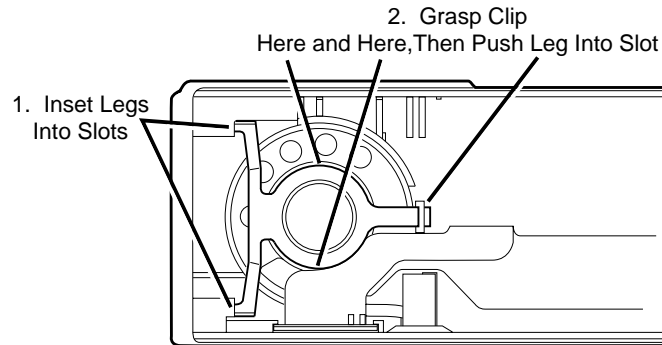

Figure 13 Reinstalling the Speaker Retainer Bracket
3. Reinstall the speaker retainer bracket (see Figure 13).